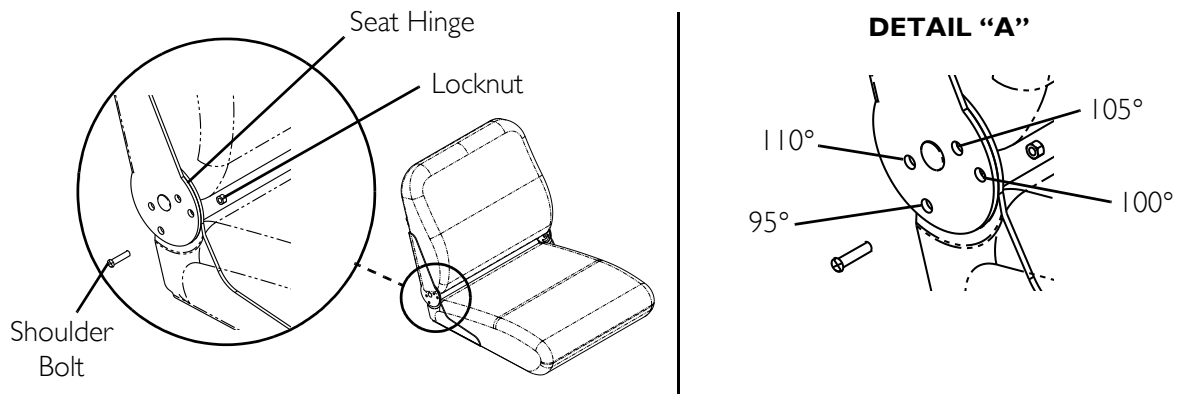

FIGURE 8.2 Adjusting the Back Angle - Fold Down Back Angle
NOTE: For this procedure, refer to FIGURE 8.2 on page 47.
2. Select one of the four back angle positions as shown in Detail "A" of FIGURE 8.2 on page 47.